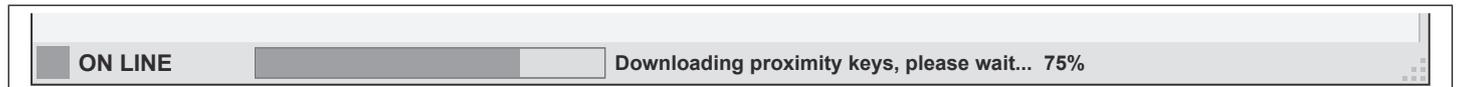

Fig. 130
- **DOWNLOADING (ON LINE):** see **Fig.130**, this indicates that the software is currently downloading any programmable settings, call button numbers/apartment numbers, dial to open numbers etc. from the GSM module.
- **FILE OPEN (ON LINE):** see **Fig.130**, this indicates that an imported or recently saved **.dat** GSM file is open or has just been opened.